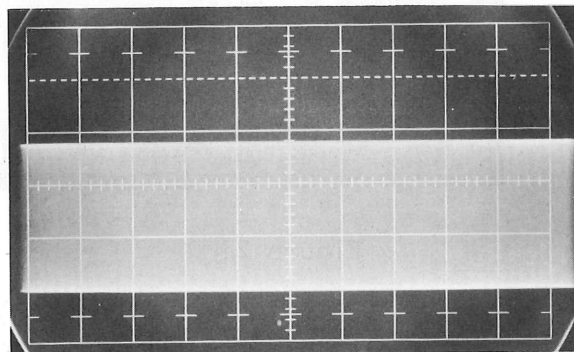

Figure 20
4. Without changing the output amplitude, set the output frequency of the 190B to 50 MC and check for 2.8 cm of deflection. See Figure 20.